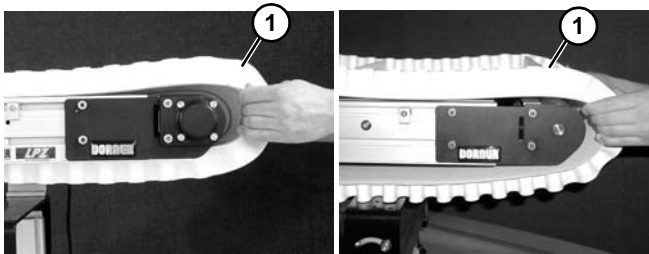

Figure 20
6. Remove belt (**Figure 20, item 1**) from conveyor.